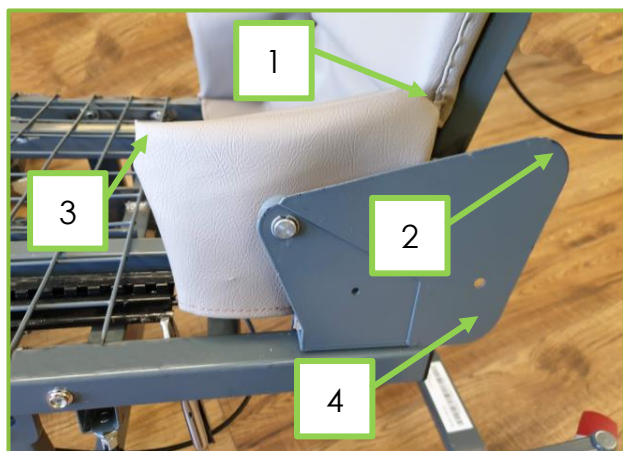

Figure 16 – (Seat cushion shown removed for clarity.)
12. Fit the backrest hinge covers over the backrest pivot points. To fit this cover, place the first part of the cover (Fig 16, Item 1) over the rear part of the hinge protection plate (Fig 16, Item 2), then pull the front part of the cover (Fig 16, Item 3) down over the hinge.
13. Figure 17 shows the backrest hinge cover from the inside. Place the lower pocket of the backrest hinge cover (Fig 17, Item 1) over the lower part of the hinge protection plate (Fig 16, Item 4) to secure the hinge cover in place.